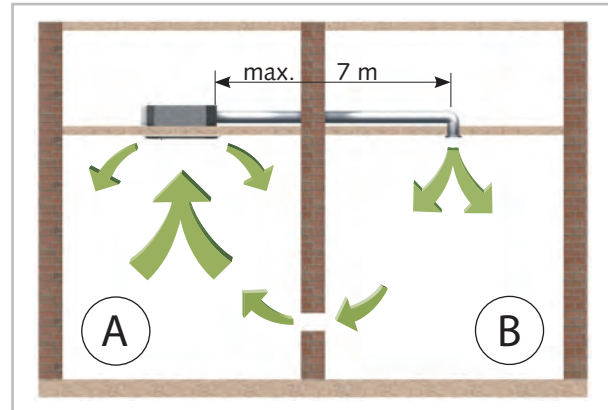

Fig. 41: Adjoining room connection
- The maximum pipe length of 7 m should not be exceeded (Fig. 41).